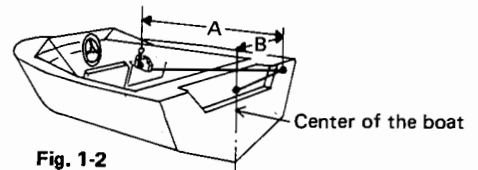

Fig. 1-2
(2) The length of the remote control cable
The cable lengths vary according to the types of boat. Therefore, set up the standards for the cable length required by adding 300mm to the distance measured between (A) and (B). (Fig. 1-2).